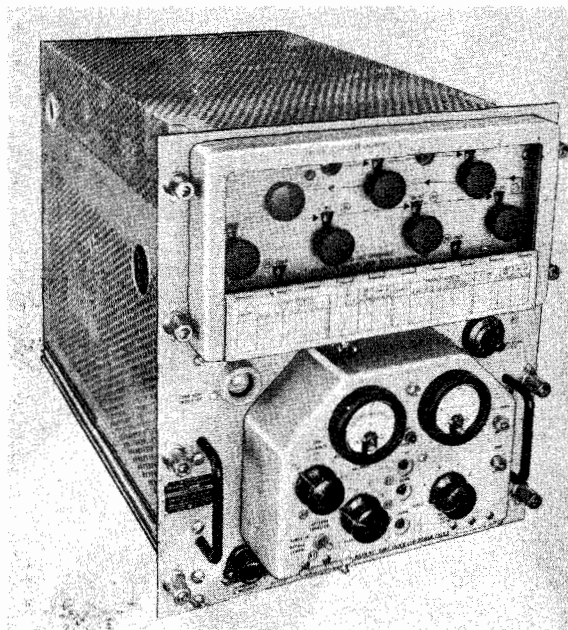

Figure 1-6. Radio Frequency Oscillator O-275/SRT, Front Oblique View, Covers On
(3) RADIO FREQUENCY OSCILLATOR O-275/SRT (RADIO FREQUENCY OSCILLATOR, RFO). (See figures 1-6 and 1-7.)—The radio frequency oscillator (RFO) is the source of the r-f carrier signal. The 100-kc crystal oscillator, the interpolation oscillator, multipliers, frequency converters, and filters provide frequencies between 0.3 and 26 mc in steps of 10 cycles. A frequency-shift oscillator provides carrier frequency shift for telegraphy in accordance with keying signals received from the low level radio modulator. The radio frequency oscillator delivers a minimum output of two volts rms to the first stage of the radio frequency amplifier.